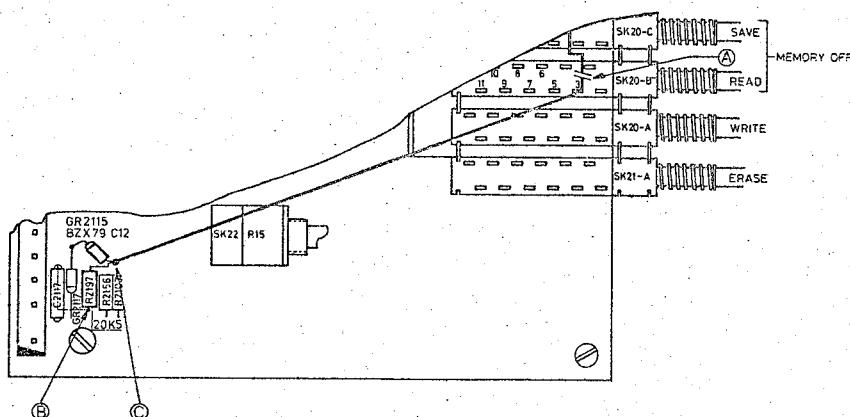

Fig. 1. Part of variable persistence and storage unit.
2. Interrupt the track (on the track-side of the p.w.b.) between point 3 of SK20B (READ) and the anode of GR2117 as indicated in fig. 1 (A)
4. Solder one side of a resistor of 20k5 (5322 116 55256) on the point, which is connected with C2117 as indicated in fig. 1 (B) (on the component side of the p.w.b.)
5. Solder between the resistor of 20k5 and the anode of the zenerdiode GR2117 a zenerdiode (GR2115) BZX 79 C12 (4822 130 34197). The cathode of GR2115 to the anode of GR2117 (see fig. 1)
6. Mount an interconnection wire between the anode of GR2115 (fig. 1 (C)) and point 3 of the switch SK20B (READ)